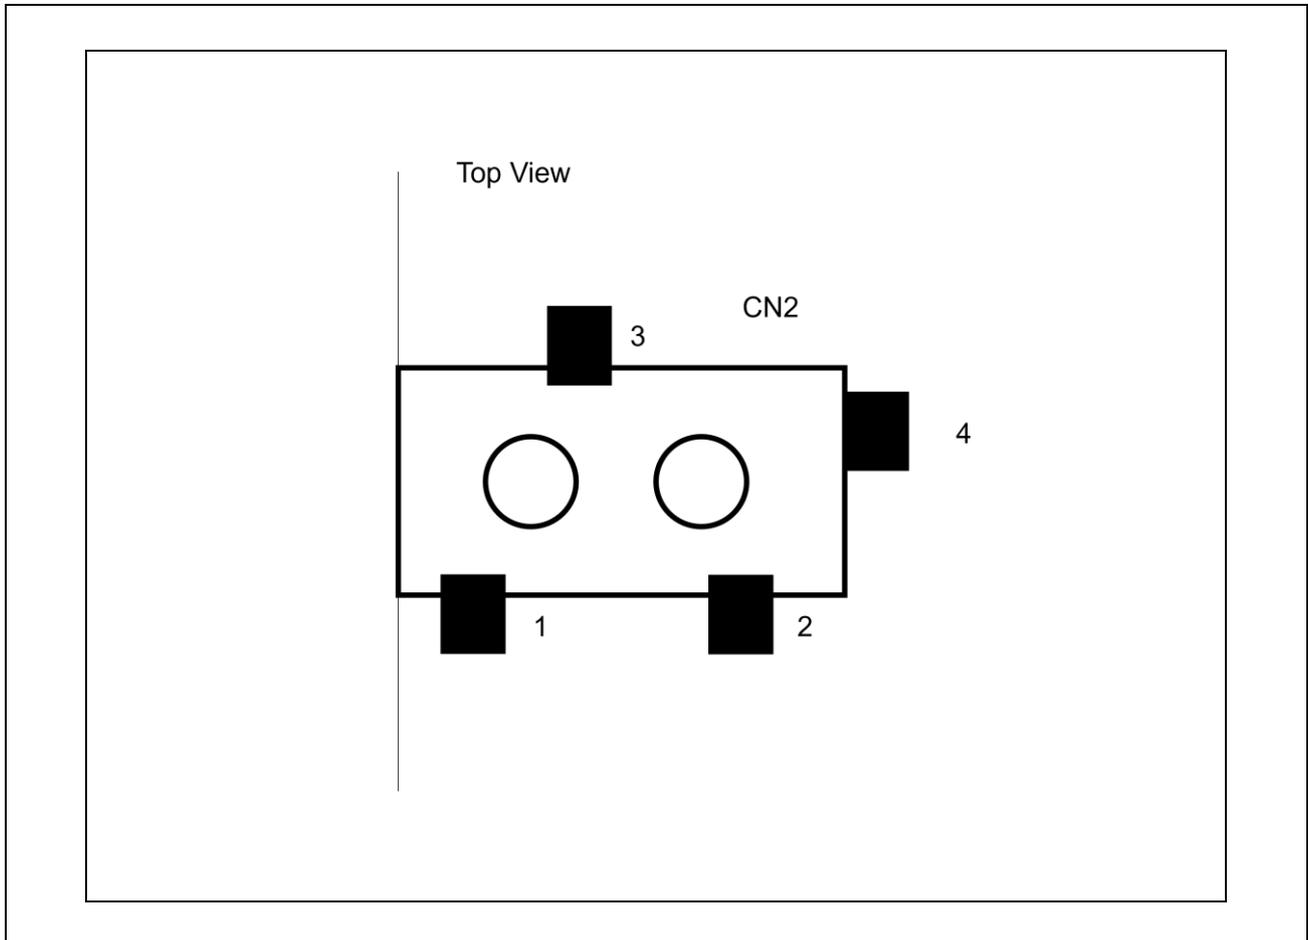

Figure 3.3 Audio Output Jack (CN2) Layout Diagram
**Figure 3.3** illustrates the layout of Audio Output Jack pins. **Table 3.2** shows the assignment of Audio Output Jack pins.